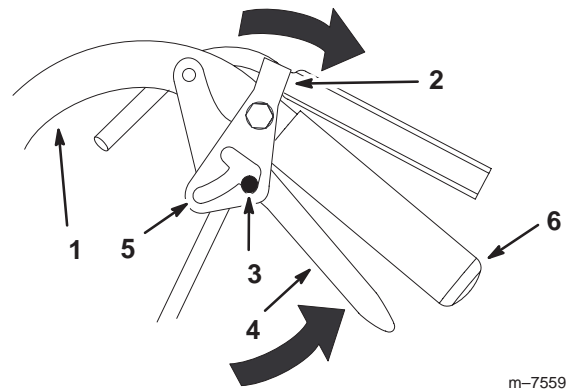

Figure 18
1. Squeeze the drive levers back to the grip (Fig. 18).
2. Place thumbs on the upper part of of locks and rotate them rearward (Fig. 18).